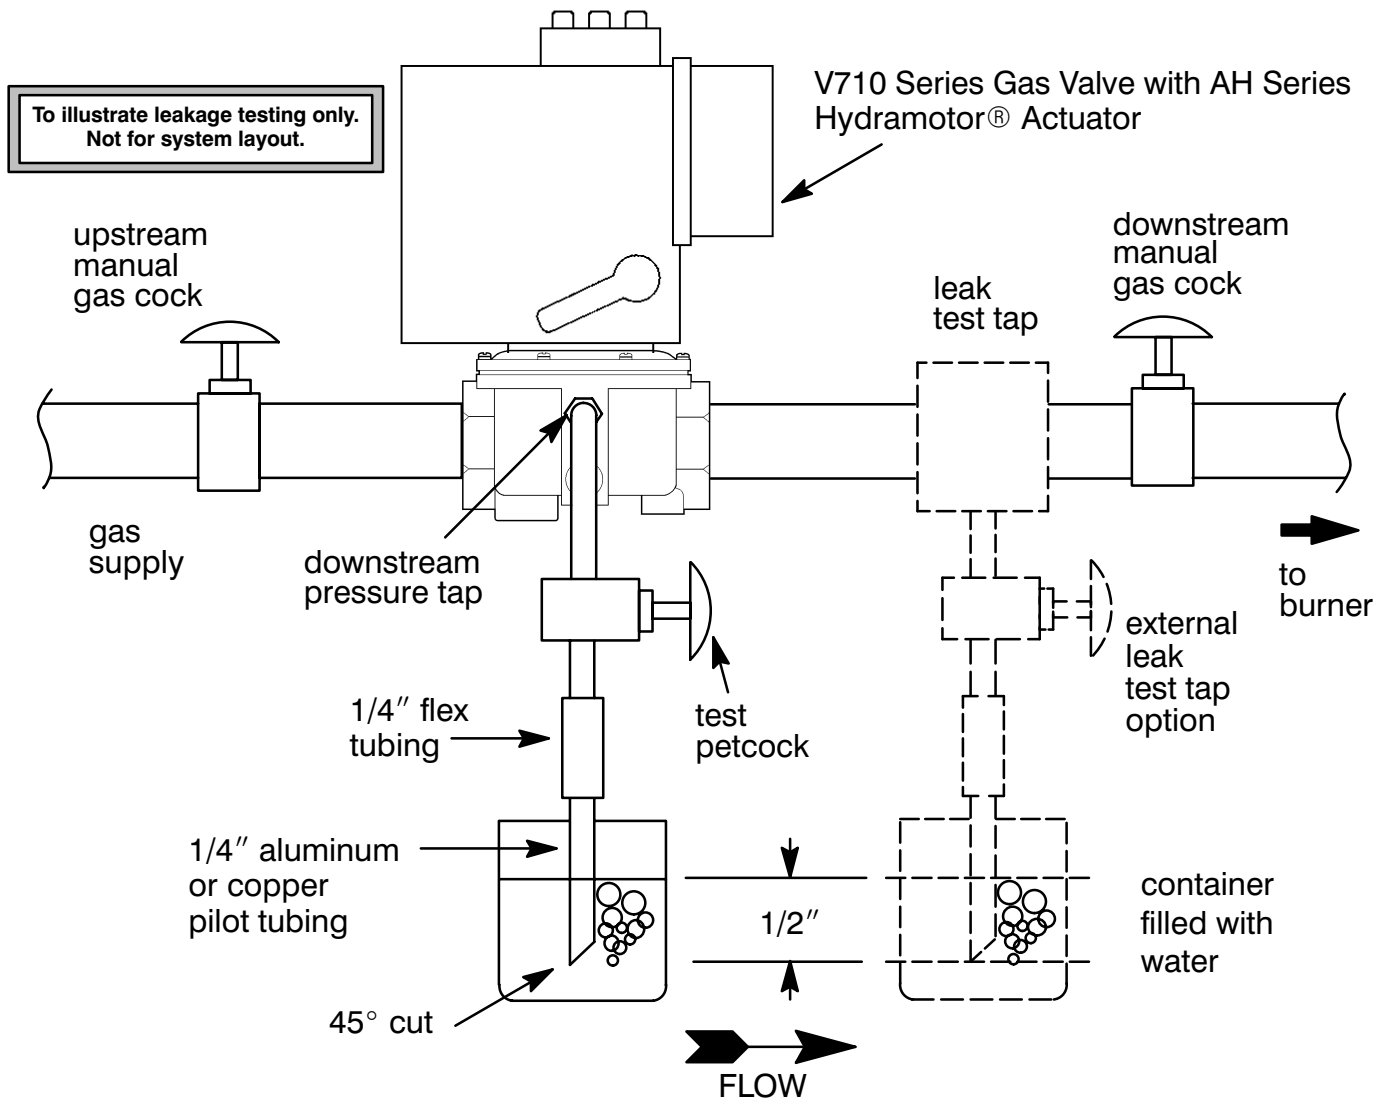

Figure 2. Testing for Internal Seat Leakage.
4. Shut off the upstream manual gas cock and de-energize valve. Remove the plug from the leak test tap or downstream pressure tap in the valve body. Connect leak test equipment with the test petcock in the closed position, see Figure 2.